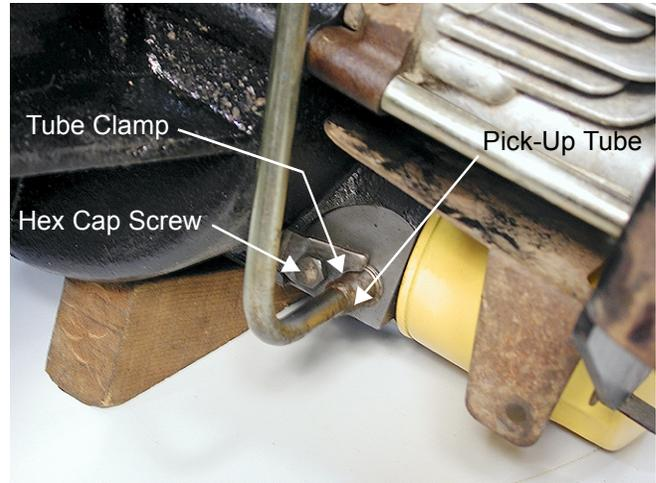

Figure 3
3. Remove the hex cap screw securing the hydraulic pick-up tube clamp and tube to the right transmission housing using a 7/16 in. socket. See Figure 3. See Figure 3.